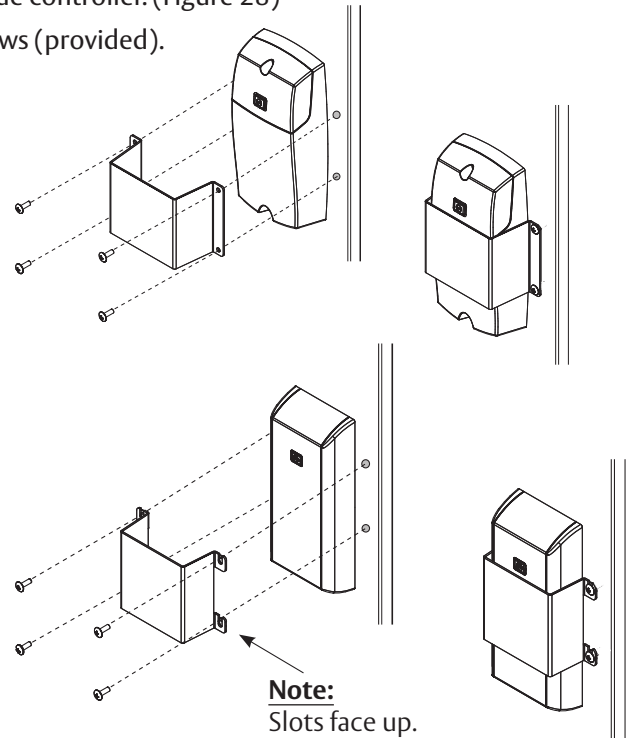

Figure 28
- Install the EAC shield (provided) over the inside controller. (Figure 28)